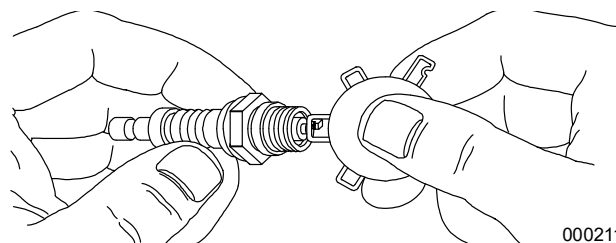

Figure 4-62. Checking Spark Plug Gap
- See **Figure 4-62**. Using a wire feeler gauge set the gap on new or used spark plugs as per **Table 4-9**.